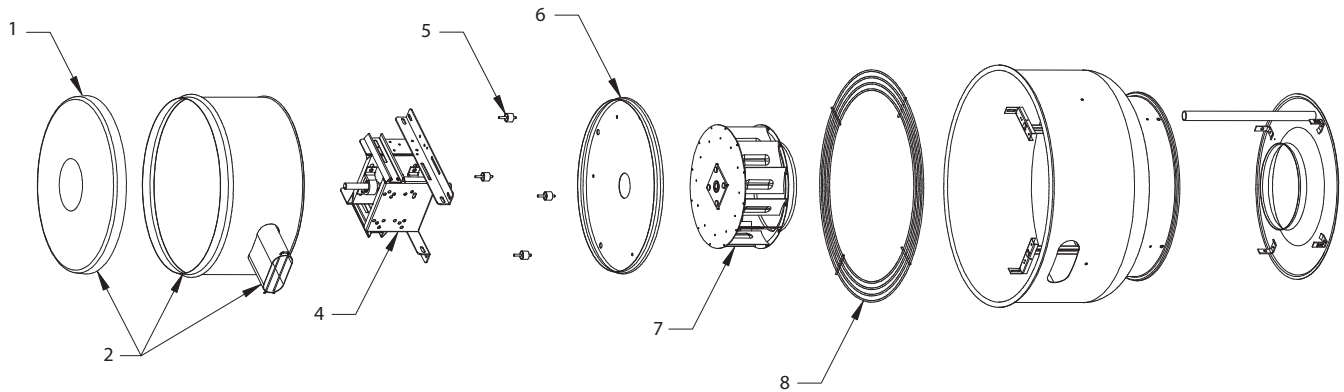

Figure 8 — Repair Parts Illustration for Centrifugal Belt-Drive Upblast Wall-Mount Exhaust Ventilators
- Mount and wire safety disconnect switch under ventilator cover and wire motor per connection wiring diagram. See Electrical Connection, Figure 8. Wire control switches at ground level.